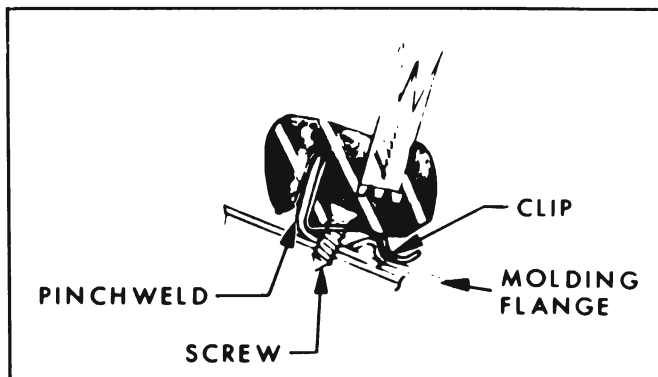

Figure 13-242—Lower Reveal Molding Emergency Attachment
7. To install moldings, replace sealing washers where necessary, apply medium-bodied sealer to base of all bolt and clip assemblies where sealing washers are not used and to all screw attaching holes and reverse removal procedure. When installing outboard ends of lower reveal moldings, locate flange of molding between clips and body and firmly press moldings into position. **NOTE.** *If molding attaching clips do not properly secure outboard ends of lower reveal moldings, install a small sheet metal screw as shown in Figure 13-242 to insure proper retention of moldings.*